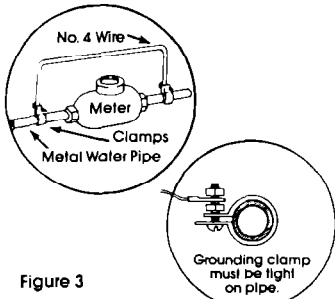

Figure 3
3. DO NOT ground to a gas supply pipe or hot water pipe. Do not connect to electrical supply until appliance is permanently grounded. See Figure 3. Grounded, cold water pipe must have metal continuity to electrical ground and not be interrupted by plastic, rubber or other insulating connectors such as hoses, fittings, washers or gaskets (including water meter or pump). Any insulating electrical connector should be jumped as shown with a length of No. 4 copper wire securely clamped to bare metal at both ends.